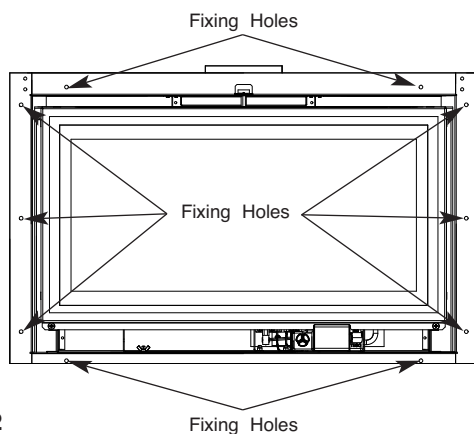

Fig. 12
5. Secure the fire box to the wall using the fixing holes provided in the fire box flange (Fig. 12).